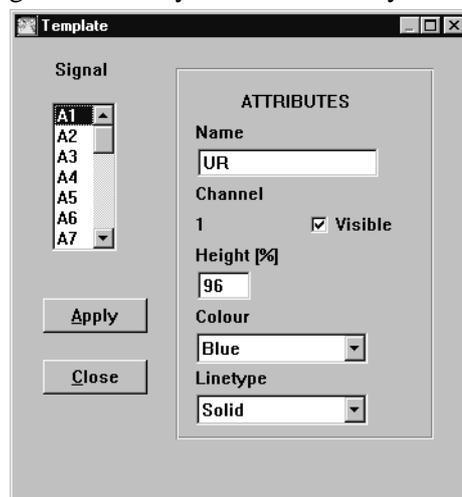

Fig. 32 The template dialogue box.
- 2 **In the Template dialogue box the settings currently used for each signal are shown, see Fig. 32. Fields that are grey cannot be edited.**